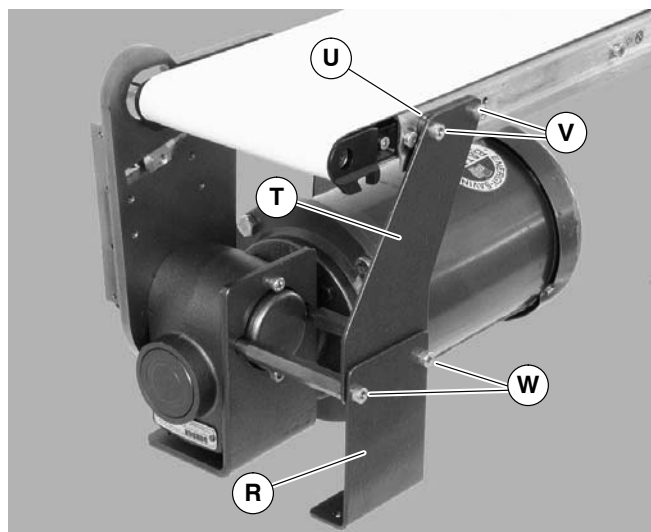

Figure 24
4. Remove screws (V & W of Figure 24) and remove support bracket (R), support plate (T) and spacer (U).